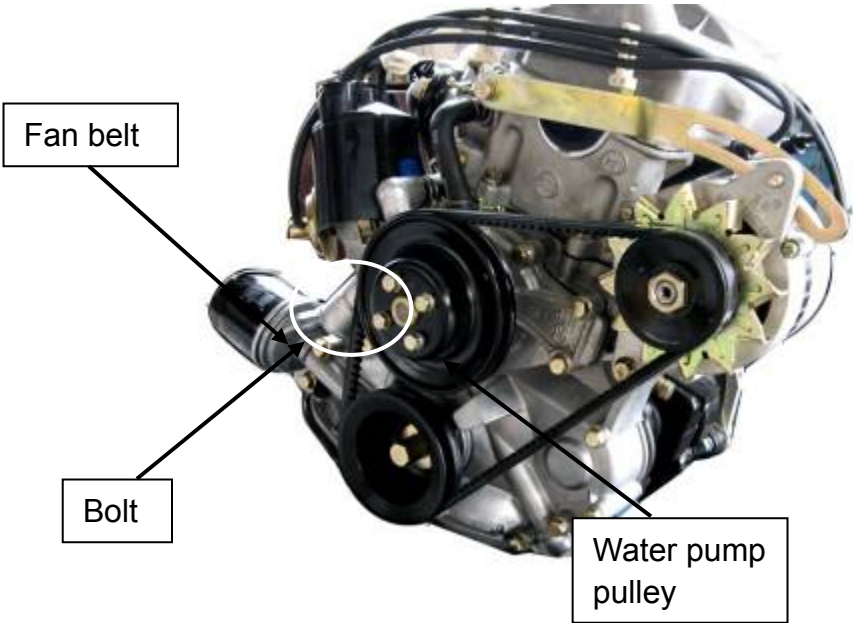

Figure 53
4. Fix the sprocket. Mark on the sprocket must be in straight line to the single white link on the timing chain. (See Figure 53)
- 3) Check the anchor hole, if it is not on the direction shown by Fig. Repeat above 1 as to obtain the hole position shown by Figure 53.